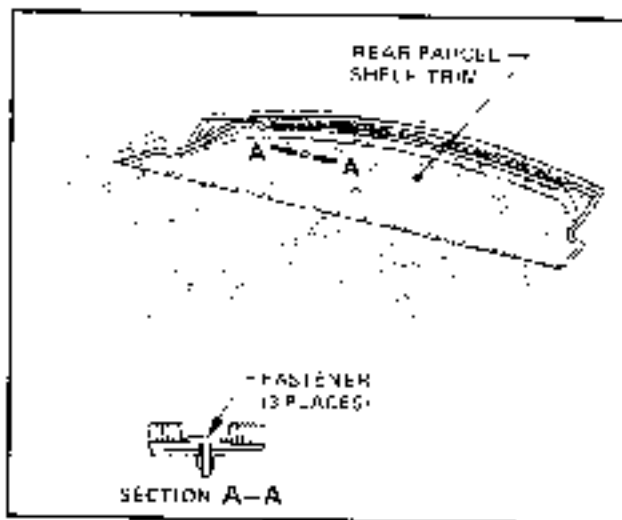

Figure 1A-18
- Ease rear door opening finishing face from leading edge of quarter window inner upper trim, then using a broad bladed screwdriver located between trim and quarter inner panel adjacent to trim fasteners (refer Sections A-A and B-B, Fig. 1A-19) carefully prise fasteners and trim from rear quarter inner upper panel.